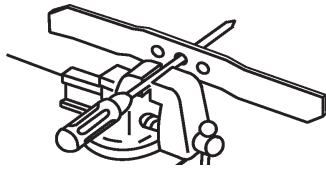

Figure 20
1. Check the balance of the blade by placing the center hole of the blade over a nail or screwdriver shank clamped horizontally in a vise (Fig. 20).